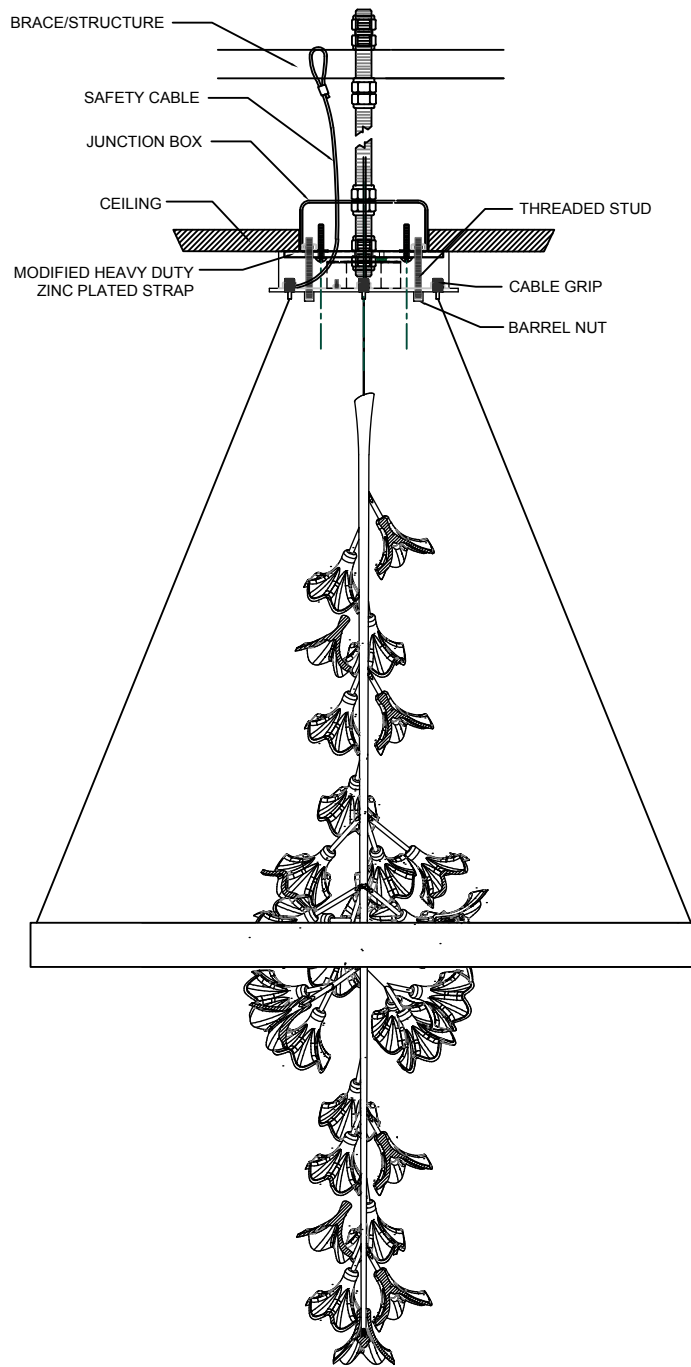

FIGURE-06
12. Attach the Safety cable to brace or structure. (See Figure-06)
13. Attach the fixture to the mounting threaded studs on modified heavy duty zinc plated strap. Secure the canopy with barrel nuts. (See Figure-06)